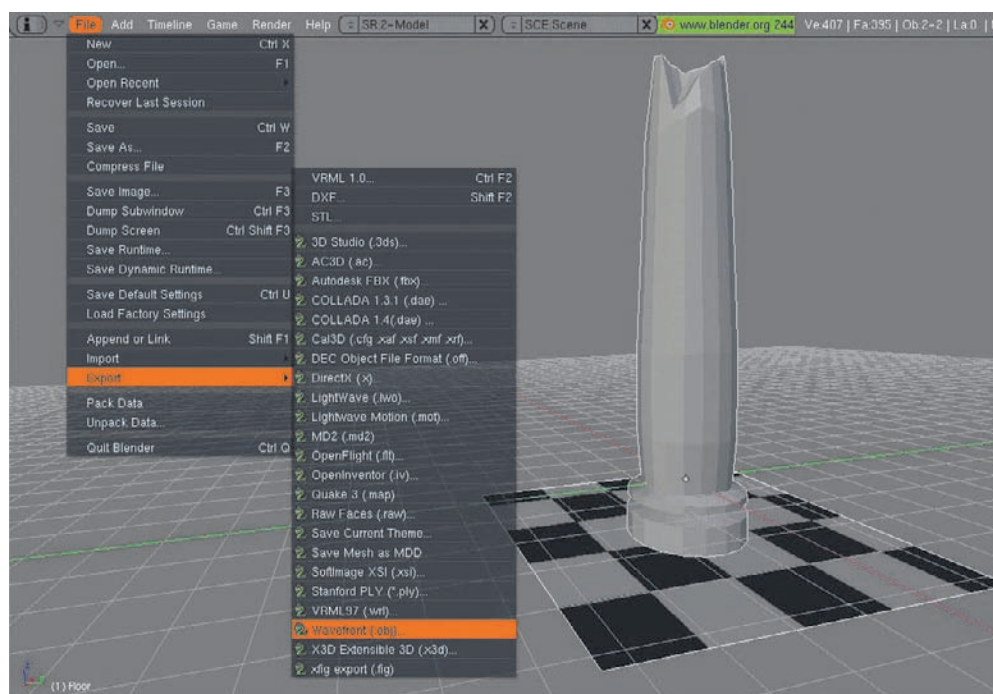
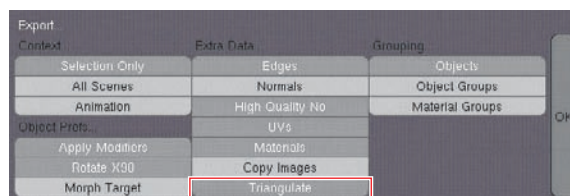

Figure 7.40 Running the .obj export script
Figure 7.41 The Obj Export dialog box
2. To use the mesh in the Ivy Generator, it is necessary to export it as an .obj file. In the case of the column I'm using, the object is subsurfaced. Remove the subsurface modifier before exporting the object. You can put the subsurface modifier back on later, but it's not necessary for the purposes of ivy generation, and the mesh you will use in the Ivy Generator should be as simple as possible. Select all objects that you want to export, in this case the column and the floor objects, and then export them by accessing the script from the Information window header at File > Export > Wavefront (.obj), as shown in Figure 7.40. Select the destination file in the file browser and click Export Wavefront Obj. When you do this, the dialog box shown in Figure 7.41 appears. Select Triangulate then click OK. This is necessary because the Ivy Generator requires meshes to be made up of triangles.